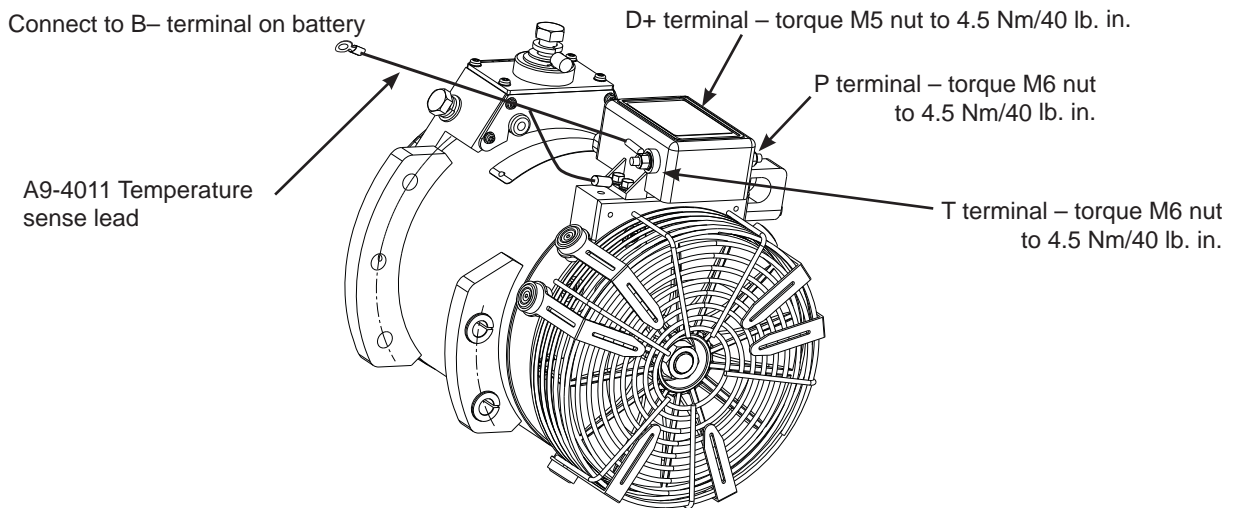

Figure 1 – A2-337 Regulator on C626 Alternator with Temperature Sense Lead
3. If A9-4011 temperature sense lead is used, see Figure 1:
- b) Connect single sense lead ring terminal to B- terminal on battery as shown in Figure 1. Tighten hardware securely.
4. Complete remaining connections to regulator, if required, as shown in Figure 1.